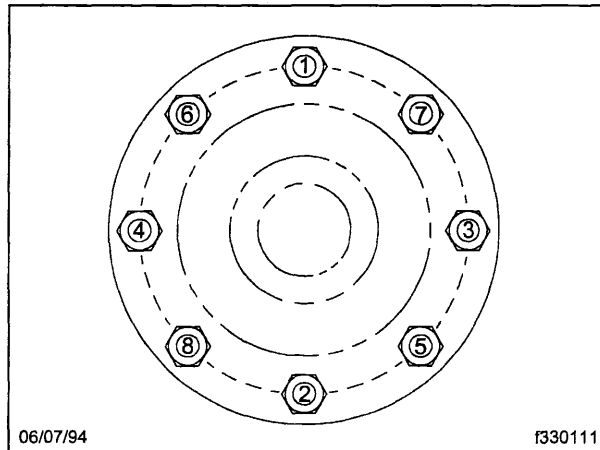

Fig. 2, Axle Stud-Nut Tightening Sequence
12. When all the applicable procedures are done, install the axle shafts. Make sure you use new gaskets. See **Fig. 2** for the stud-nut tightening sequence. Use the following torque values: